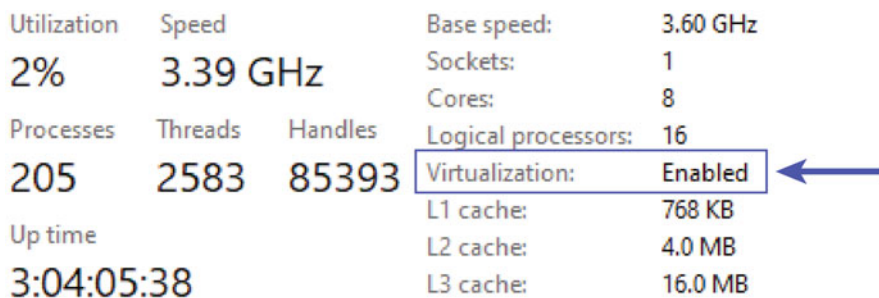

Fig. 11.10: Performance tab in task manager showing that virtualization has been enabled
Step 4: Check the performance tab in Windows 10 Task Manager to see that virtualization has now been enabled. You can see in Fig. 11.10 that Virtualization has now been enabled in the Task Manager.